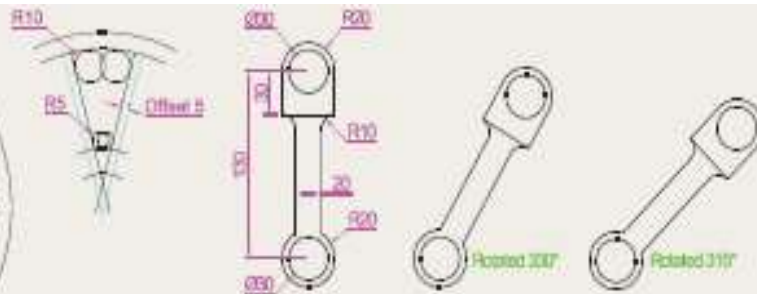

Fig. 5.53 Exercise 7
7. Construct the drawing shown in Fig. 5.53 and make two copies using **Copy**. With **Rotate** rotated each of the copies to the angles as shown.